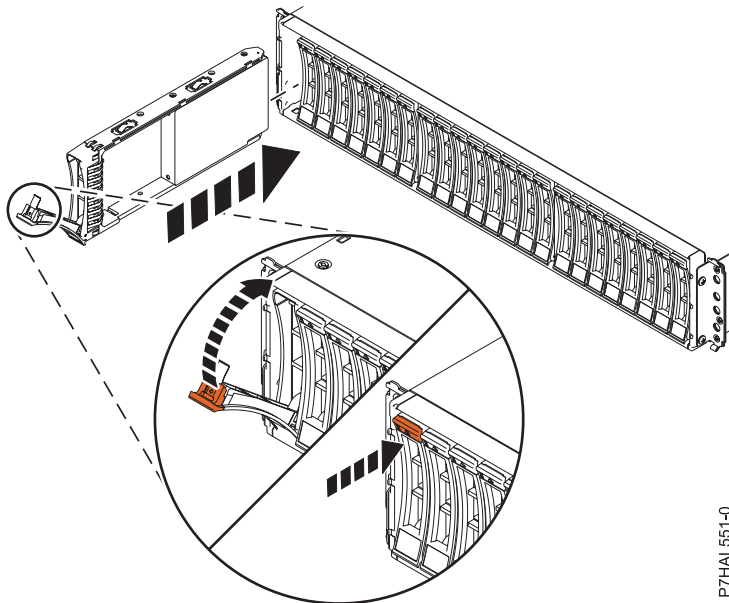

Figure 10. Installing the disk drive in the 58/87 disk drive enclosure
1. With the handle in the unlocked position, as shown in Figure 10 on page 19, support the bottom of the drive as you align it with the guide rails in the expansion unit.